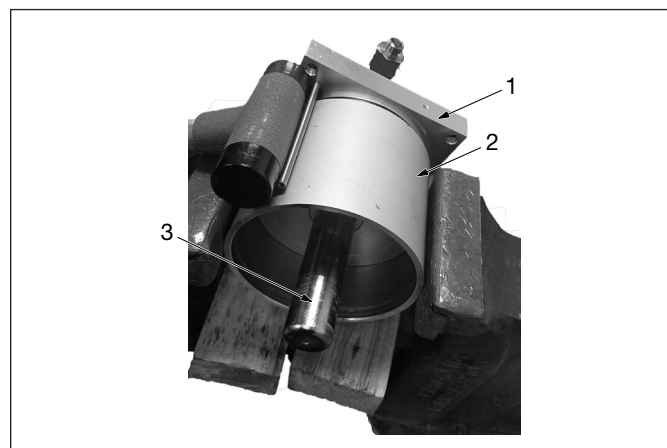

Figure 3, Tie Rod Removal (View 2 of 2)
3. Using a soft mallet, separate the end caps (Figure 3, Item 1) from cylinder tube (Figure 3, Item 2).
4. Using a soft mallet, drive piston rod (Figure 3, Item 3) out of the cylinder tube (Figure 3, Item 2).
- Using a soft mallet, drive piston rod (Figure 3, Item 3) into the cylinder tube (Figure 3, Item 2).
- Using a soft mallet, press the end caps (Figure 3, Item 1) onto the cylinder tube (Figure 3, Item 2).